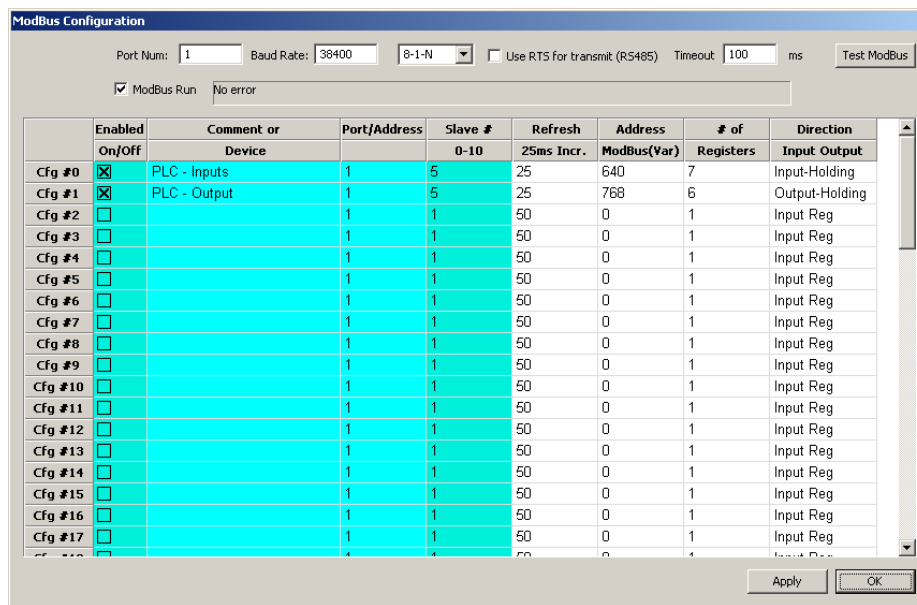

Figure 3 ModBus Configuration
You will see the **ModBus Configuration** window (Figure 3).
3. The following configuration in the modbus window must be used (Figure 3). Notice that at least 7 inputs and 6 outputs must be transferred between Mach3 and the PLC. For more information on addressing in a PLC, see our manual ***Programmable Logic Controls: Using ModBus to Interface PLCs with Mach3.***